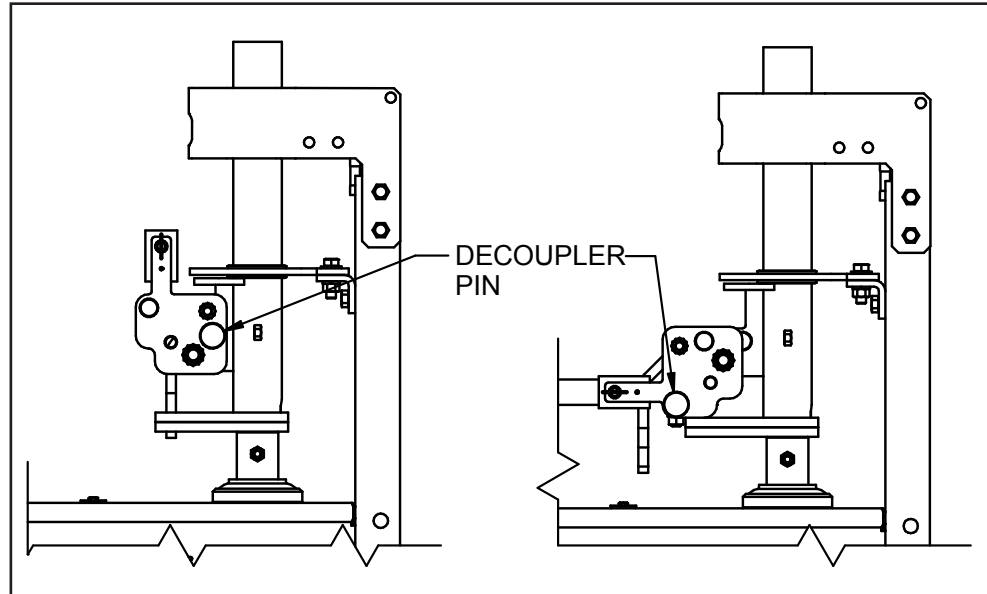

Figure 13. The rotational operator decoupling mechanism.
- (e) Remove the handle pin from the decoupling mechanism. See Figure 13 on page 24.